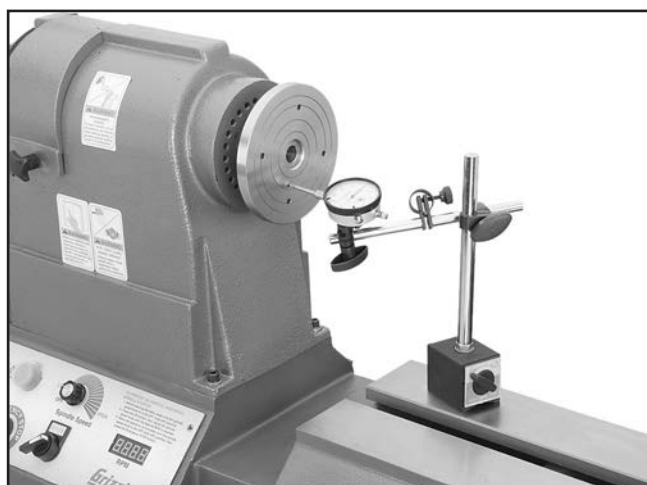

Figure 67. Using a dial indicator to measure end play.
20. Set up a dial indicator, as shown in **Figure 67**, and while holding the spanner nut with a leather glove, push and pull it toward the tailstock to determine the amount of end play. The correct amount of end play is 0.001"–0.002".